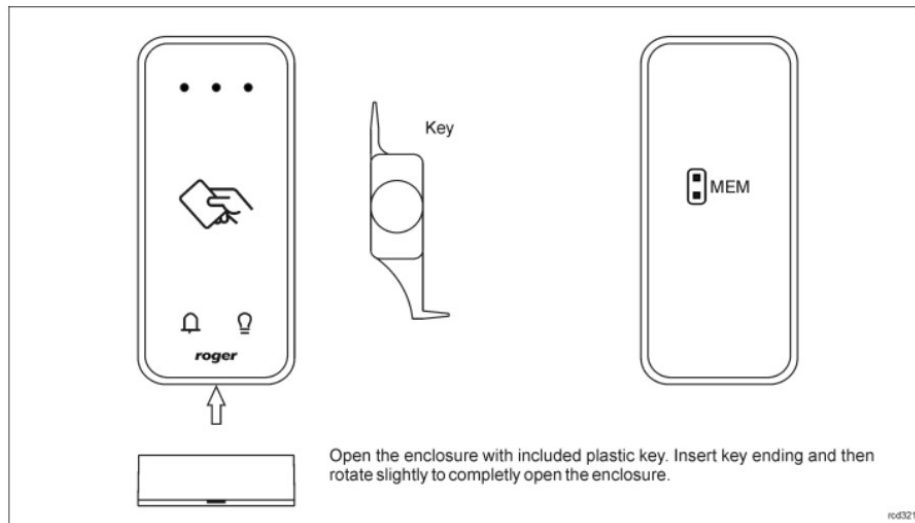

Fig. 2 Enclosure opening and location of service contact.
2. Remove jumper from MEM contacts (fig. 2) if it is placed there.
2. Place jumper on MEM contacts (fig. 2).